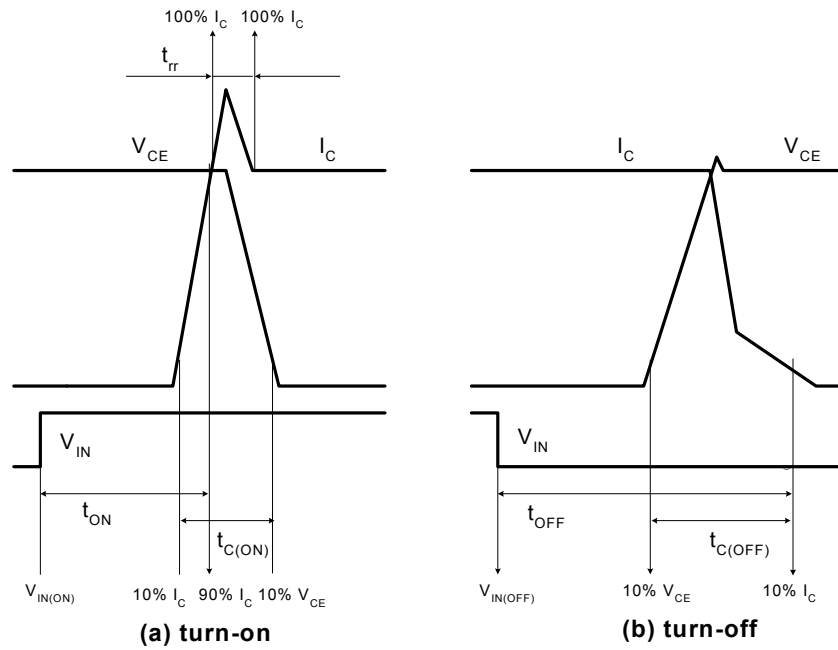

Figure 4. Switching Time Definition
3.  $t_{ON}$  and  $t_{OFF}$  include the propagation delay time of the internal drive IC.  $t_{C(ON)}$  and  $t_{C(OFF)}$  are the switching time of IGBT itself under the given gate driving condition internally. For the detailed information, please see Figure 4.